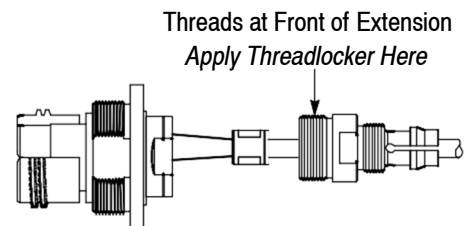

Figure 14
10. Push-fit the housing key onto the housing. Using the T-handle to hold the connector, apply 3 or 4 drops of the threadlocker to the threads of the housing. Refer to Figure 14, Detail A.
11. Reverse-thread the locking nut onto the housing. **These components have a left-hand thread.** The locking nut should capture the O-ring (installed in Step 5) and sit against the D-hole housing. Using the 26-mm open-end wrench, tighten the locking nut to a torque between 14 and 16 N·m. Refer to Figure 14, Detail B.
13. Align the internal key (small bar inside) of the housing with the keyway (slot along the side) of the EB insert, and slide the EB insert into the housing. See Figure 14, Detail C.
14. Using the 3-mm hex wrench, push the EB insert into the housing until it bottoms (when bottomed, the front edge of the EB insert should be flush with the front seal). See Figure 14, Detail D. To avoid damage to the fiber, DO NOT push on the fiber or cable to install the EB insert.
15. Slide the wave spring over the crimp sleeve and into the housing. See Figure 14, Detail D.
16. Apply 3 or 4 drops of the threadlocker to the threads at the front of the extension. Refer to Figure 14, Detail E.